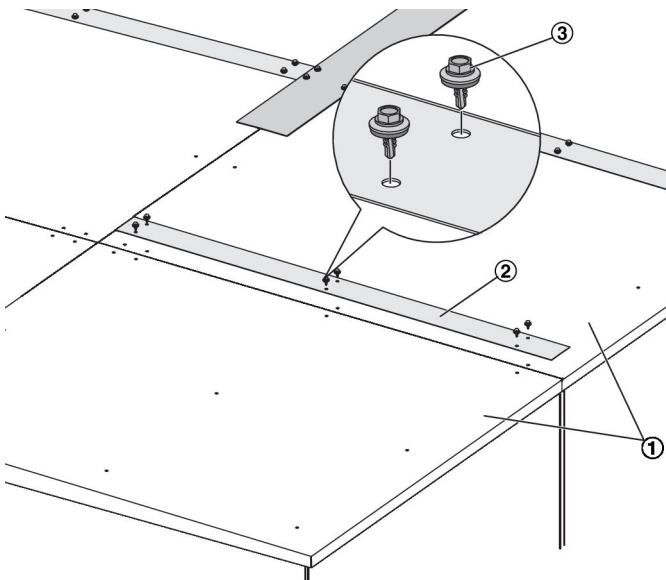

Fig. 20: Joining roof segments
- ① Roof segments
- ② Cover strips
- ③ Self-drilling screws with sealing washers
- 1 ▶ Connect all joints between the roof segments (Fig. 20 /1) with cover rails (Fig. 20 /3), and fix cover rails with drilling screws (Fig. 20 /4).